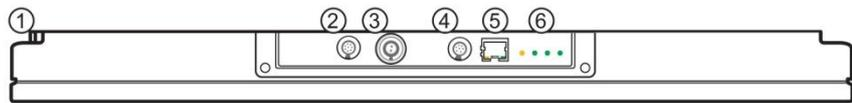

Figure 2: Detector
If the noise is detected, ① port of figure 2 should be connected with ground.